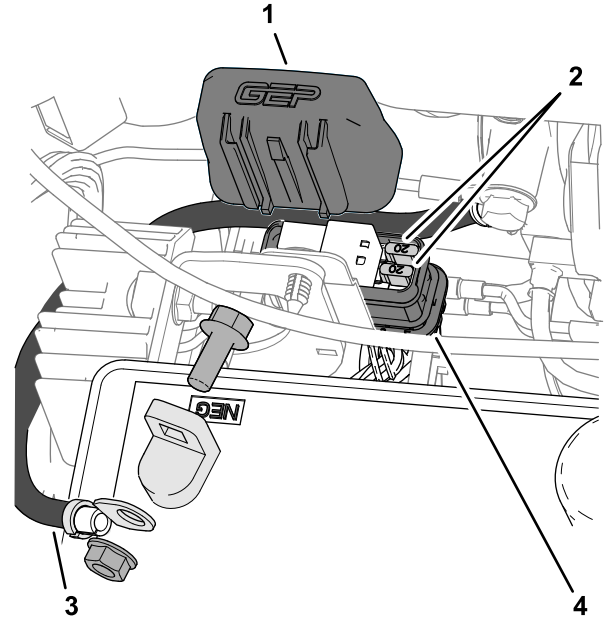

Figure 91
4. Install a fuse (20 A) of the same type into the socket of the fuse/relay holder (Figure 91).
5. Install the cover onto the fuse/relay holder until the cover latches securely (Figure 91).
2. Push the latch on the fuse/relay holder and separate the cover from the holder (Figure 91).
3. Pull the fuse from the socket of the fuse/relay holder (Figure 91).